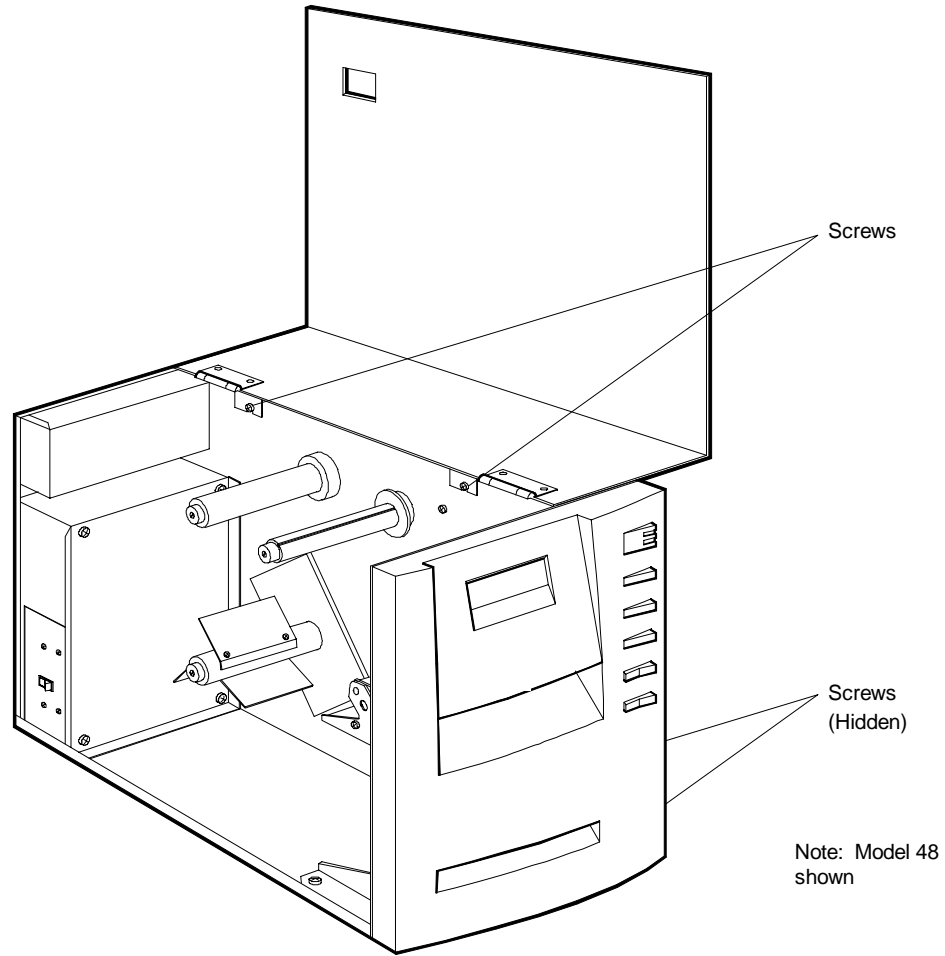

Figure 4-1 Right Side Cover Screws
3. Loosen the four cover screws (two on the inside and two on the outside) holding the right side cover in place (see Figure 4-1).